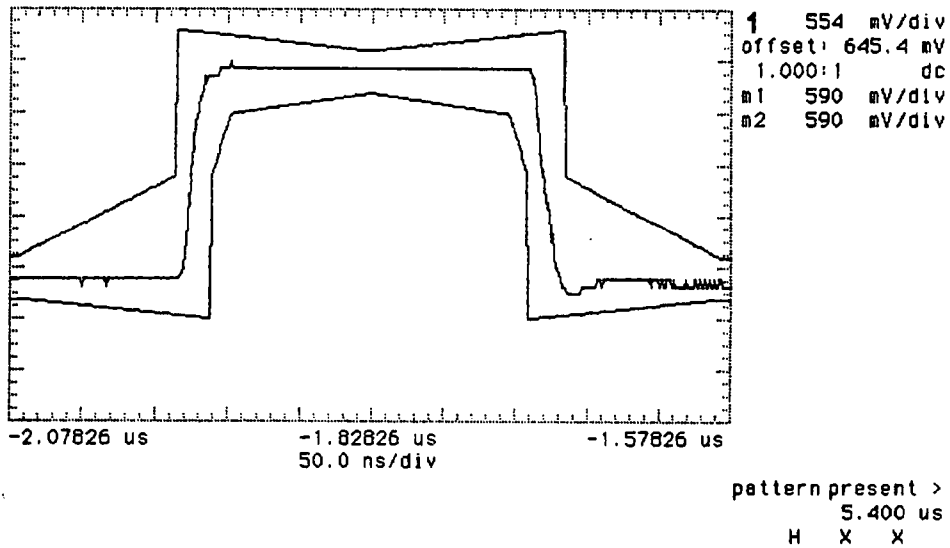

Figure 3-27. 2 Mb/s Isolated Positive Pulse
- Press **SHIFT** **AUTOSCALE** on the oscilloscope to automatically align the pulse to the mask. Verify that the pulse falls within the mask as shown in Figure 3-27.